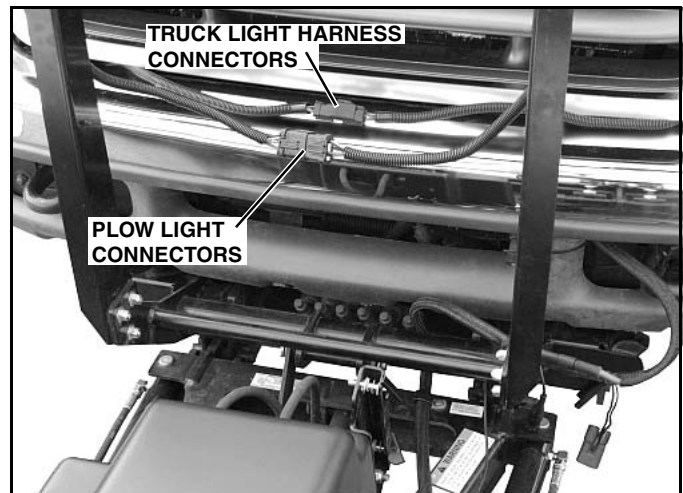

Figure 1-25
3. To prevent corrosion on the contacts, plug the male and female connectors on the plow together. (See Figure 1-25).
4. To make the truck lights operable, plug the male and female connectors on the truck light harness together. (See Figure 1-25).